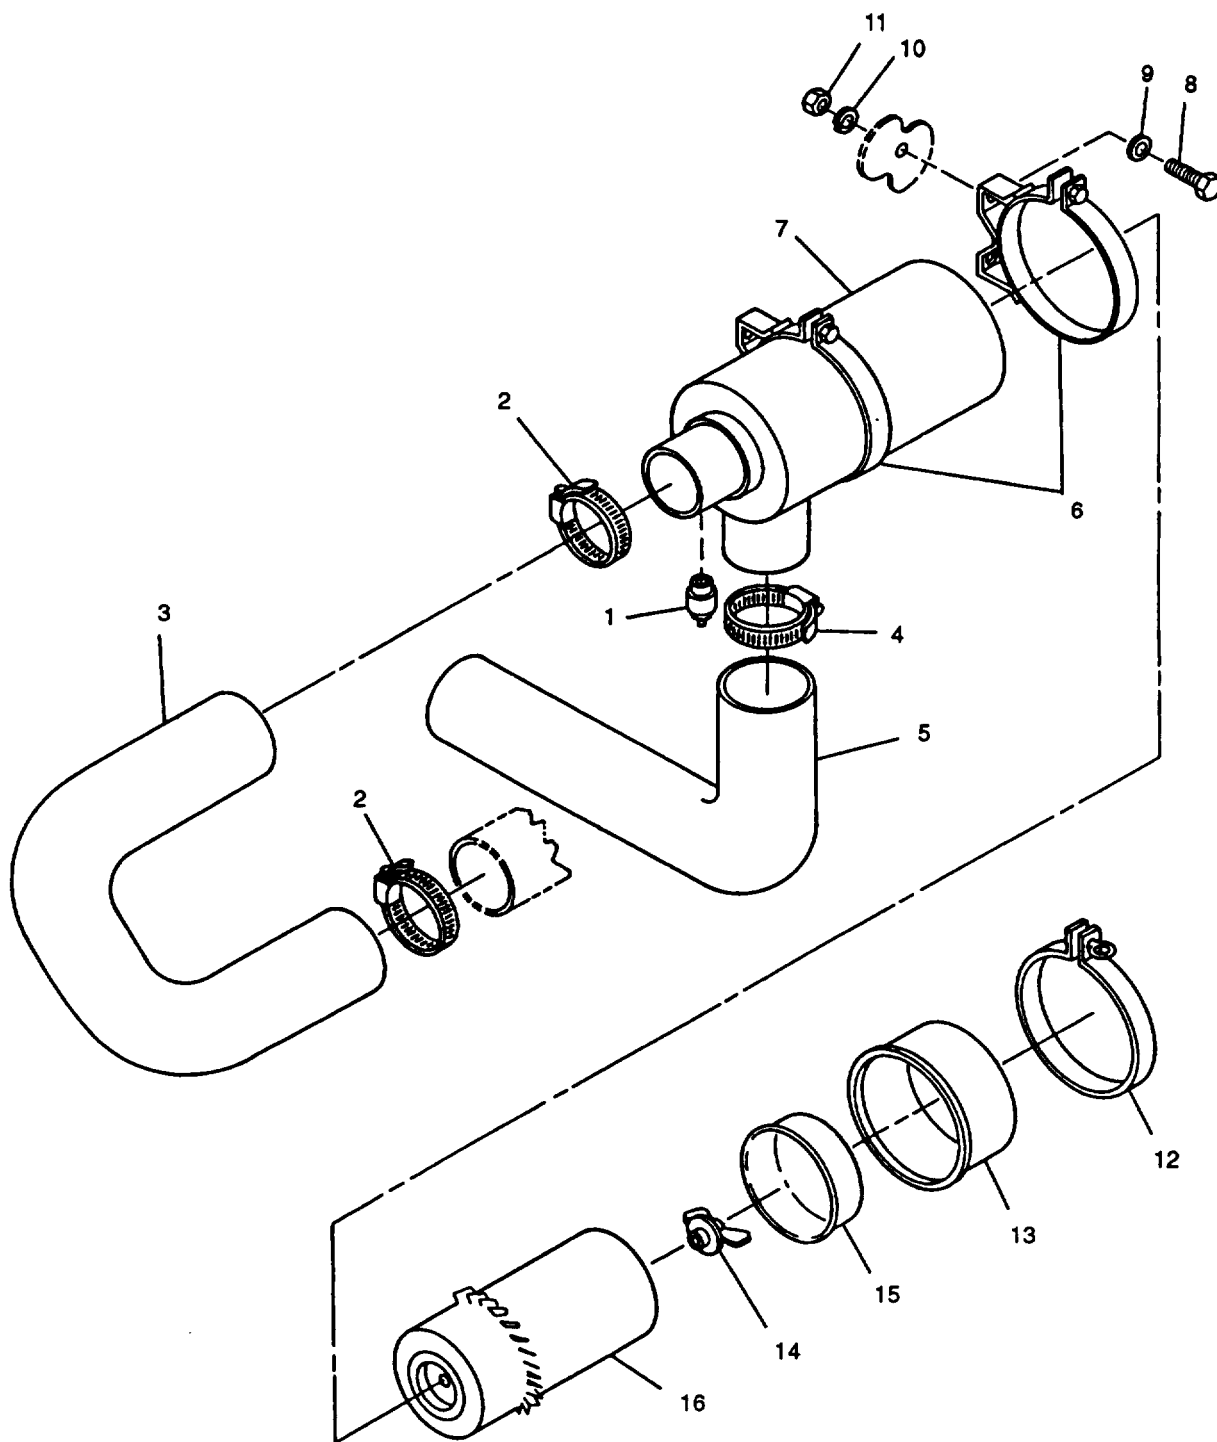

FIGURE 2-19. Air Cleaner Assembly
- c. Inspect air restriction indicator (1, FIGURE 2-19) for cracks, stripped threads, or other obvious damage.
- c. Unscrew and remove air restriction indicator (1, FIGURE 2-19) from air cleaner housing (7).
- a. Install air restriction indicator (1, FIGURE 2-19) on air cleaner housing (7).
- c. Loosen clamps (2, FIGURE 2-19) and remove hose (3) from air cleaner housing (7) and engine intake.
- d. Loosen clamp (4) and remove hose (5) from air cleaner housing (7).
- e. Open clamps (6) and remove air cleaner assembly from generator set.
- g. Remove control box top panel, paragraph 2-16.1 to remove bolts (8), washers (9), lockwashers (10), nuts (11), and clamps (6) from generator set.
- a. Install clamps (6, FIGURE 2-19) on generator set with bolts (8), washers (9), lockwashers (10), and nuts (11).
- c. Place air cleaner assembly in clamps (6).
- d. Position hose (3) on air cleaner housing (7) and intake manifold.
- e. Position hose (5) on air cleaner housing (7).
- f. Tighten clamps (6) securing air cleaner assembly.
- g. Reposition hoses (3) and (5), and tighten clamps (2) and (4).
- c. Loosen clamp (12, FIGURE 2-19) and remove cap (13), and baffle (15).
- d. Remove wing nut (14) and air cleaner element (16).
- b. Wipe inside of air cleaner housing (7, FIGURE 2-19) with cleaning cloth (Item 6, Appendix C).
- c. Inspect element (16) for clogs necessary.
- a. Install air cleaner element (16, FIGURE 2-19) and wing nut (14).
- b. Install cap (13) and baffle (15), and tighten clamp (12).